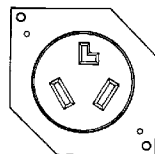

Figure 2C
- C. For 46007P and Device (See Figure 2C).
- b. Place Plate (46007P) over device so that the mounting holes of the plate are in the upper left and lower right corners of device as shown in Figure 2C. If device mounting holes line up with device mounting holes in plate (smaller holes), attach plate to device using two 6-32 x 3/8" round head screw(s), included. NOTE: 30 and 50-ampere receptacles should be installed with ground contacts at top to facilitate the use of angle cord sets.